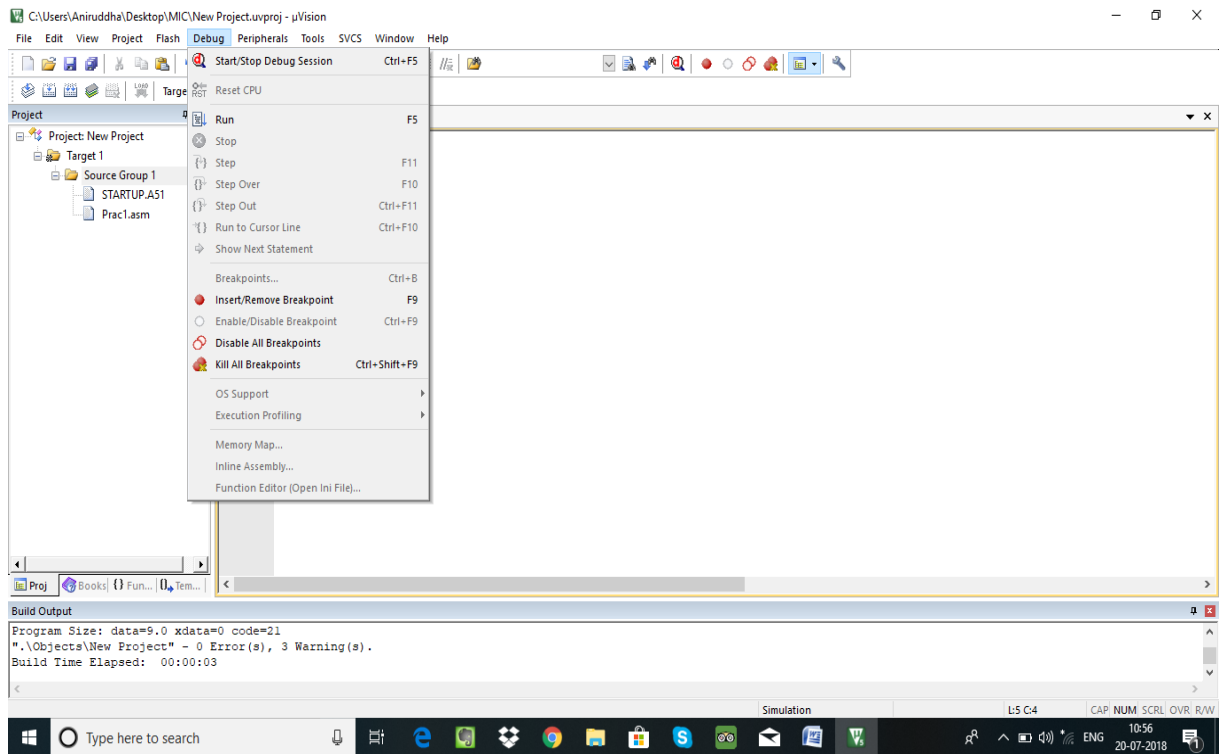

Figure.16
4. To start the simulation, click on Debug pull down. Then select Start/Stop debug session. Fig 16